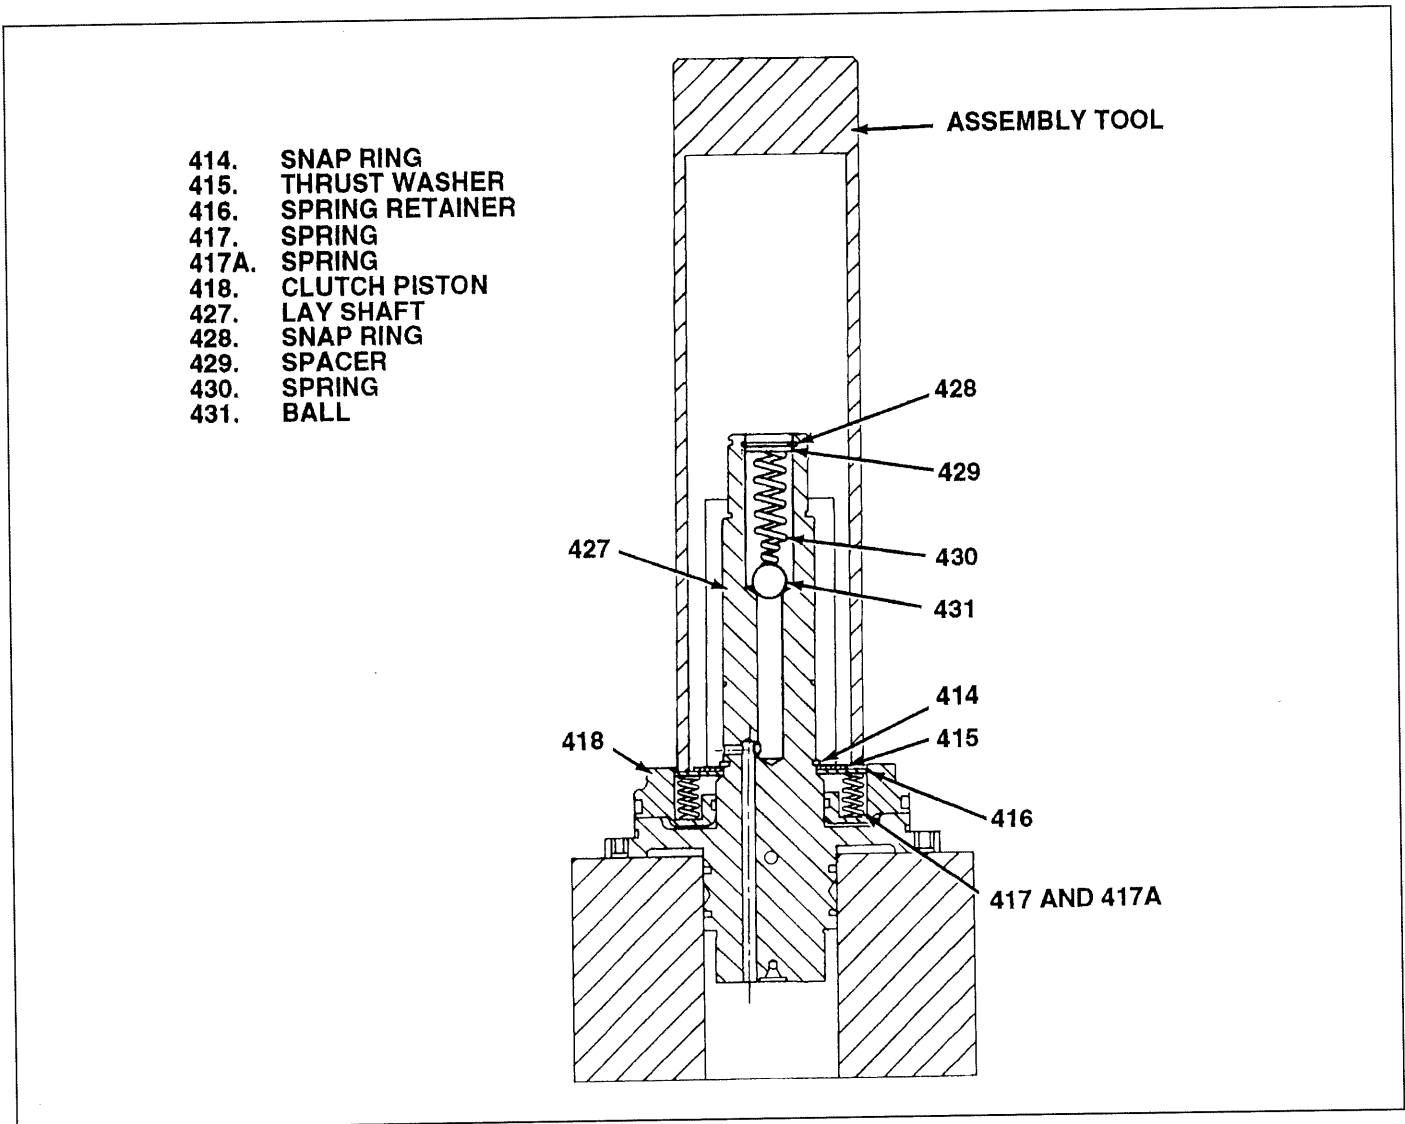

Figure 3-16: Removing Snap Ring
1. Remove twelve bolts (411) and lock plates if used.
2. Remove clutch gear cylinder (413) from lay shaft (427).
3. Support lay shaft (427) in suitable holding fixture (see figure 3-16) in arbor press. Press down on spring retainer (416) to compress springs (417 and 417A) slightly. Remove snap ring (414).
4. Slowly release arbor press, allowing springs (417, and 417A if used) to expand. Remove assembly tool, thrust washer (415), and spring retainer (416). Remove four springs (417) and twelve springs (417A). Remove shaft assembly from arbor press and holding fixture.
5. Remove clutch piston assembly (418) from lay shaft (427). Remove sealing ring assembly (419),